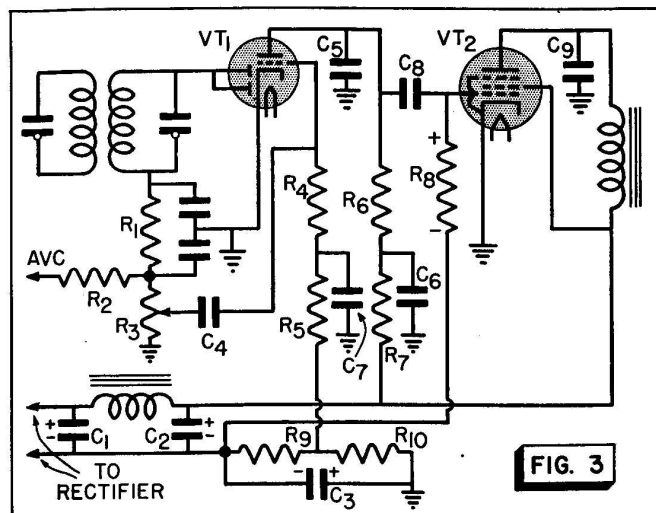
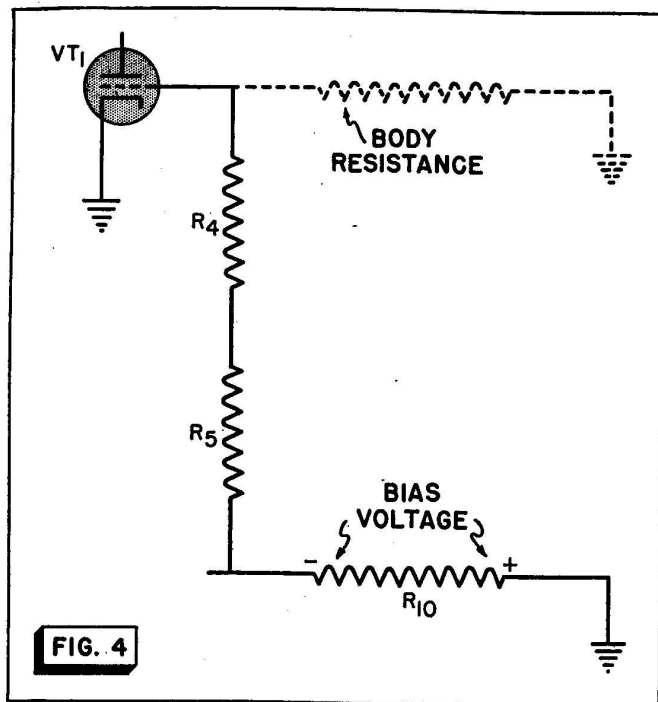

FIG. 3
FIG. 4
► Circuits that use a fixed bias that is obtained from a power supply, as in Fig. 3, all have a common weakness. The plate currents of all the tubes flow through resistors R_{10} and R_9 . VT_1 is biased by the drop across resistor R_{10} , and the voltage across both R_9 and R_{10} acts as the grid bias for VT_2 . This circuit works very well as long as the current flow through these resistors is unchanged. However, any change may produce distortion.
► To see why touching your hand to the top cap of VT_1 and to the chassis reduces the bias on the tube, examine the circuit shown in Fig. 4. This shows the essential bias supply circuit of VT_1 in Fig. 3, which consists of the supply resistor R_{10} and the series resistors R_4 and R_5 . Ordinarily, when no d.c. current flows in this grid circuit, resistors R_4 and R_5 have no effect on the grid bias voltage; all the bias voltage developed across R_{10} is applied to the grid of VT_1 .
However, touching your hand to the chassis and to the tube top cap effectively connects a resistance (the resistance of your hand) between the grid and the chassis. This resistance is shown by dotted lines in Fig. 4. Notice that now there is a complete d.c. path from R_{10} through R_5 , R_4 , and the resistance of your hand to the